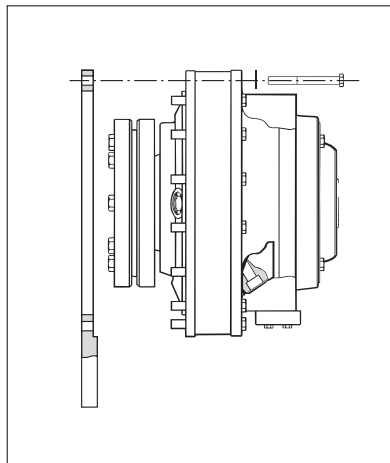
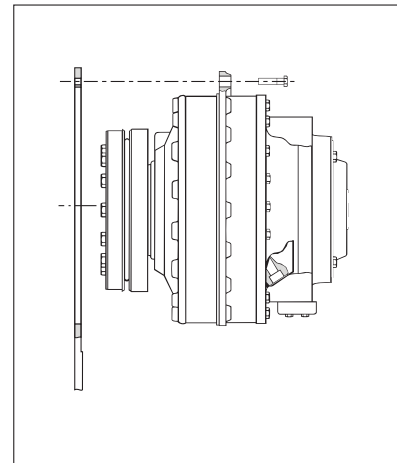

Fig. 3.9 CA 50/70
Fig. 3.9a CA 100/140/210
- Mount screws and washers according to figure 3.9 and screws according to figure 3.9a.